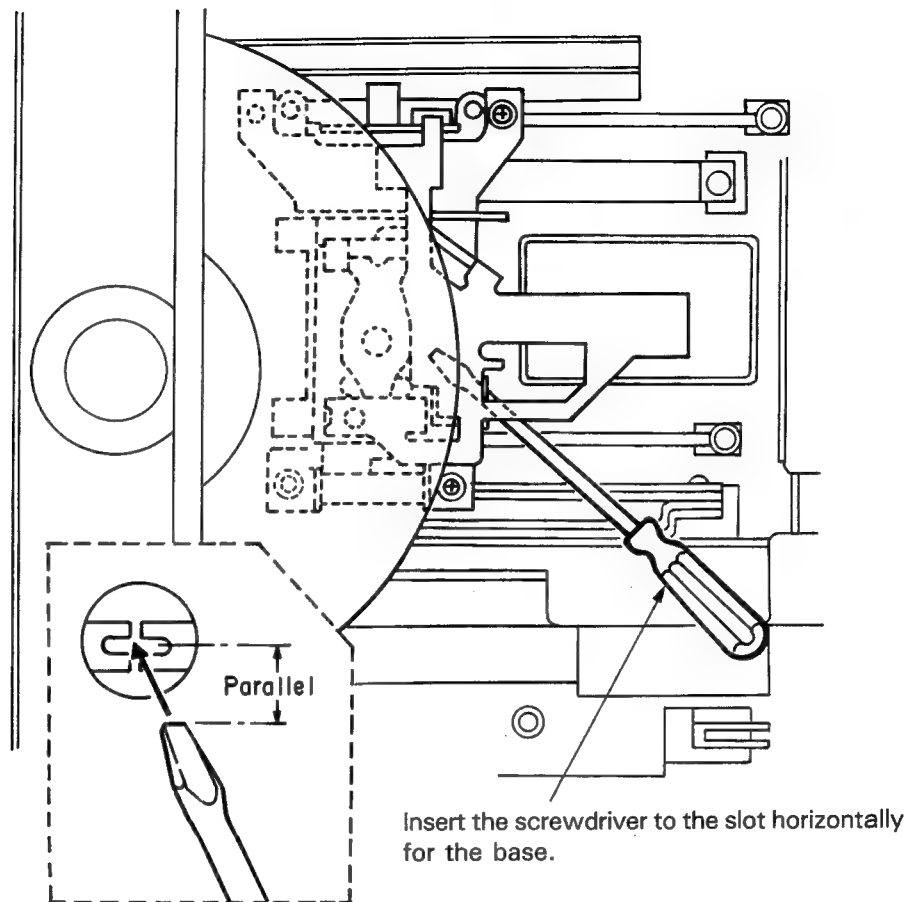

Fig. 2
6. Insert the flat bladed \ominus screwdriver (small) into the grating adjustment hole horizontally (Fig. 2.). When the grating adjustment screw is turned, the tracking error waveform alternates between large and small. After the waveform amplitude becomes small, find the position where the waveform shows a smooth envelope. (Photo 1) (This status is called the "on-track" position.)